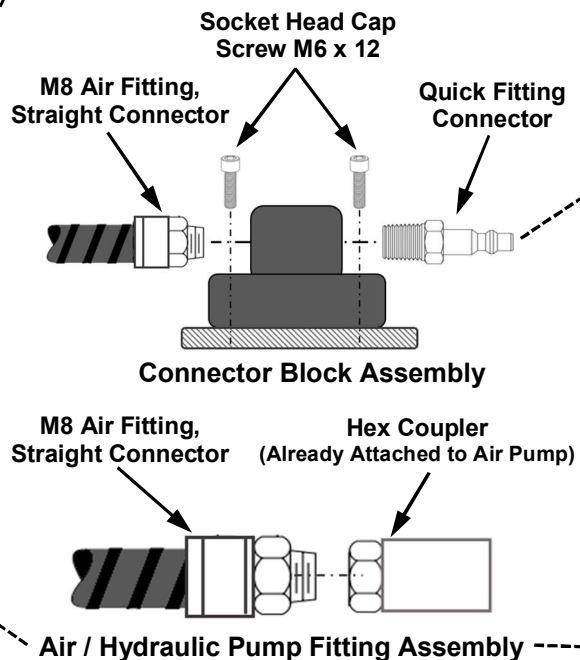

Fig. 11
- 2) For both Front & Rear Rolling Jacks, mount Connector Block to the threaded holes already applied to top & side of each Jack's Frame using 2ea M6 x 12mm Socket Head Screws & D6 Lock Washers, **Fig. 11**.
- 3) Install (M8) Air Fitting, Straight Connectors to the inside of each Connector Block, while also installing Straight Connectors to the Hex Coupler Fittings (already applied) for each Air / Hydraulic Pump, **Fig. 11**.